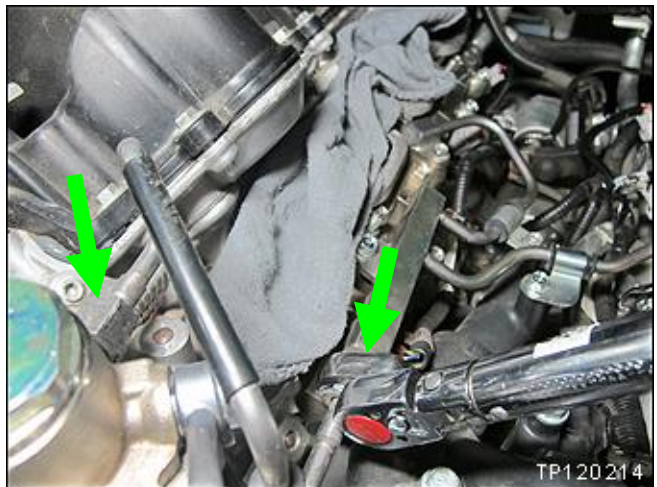

Figure 25m
30. Torque the flange nuts shown in Figure 25m: